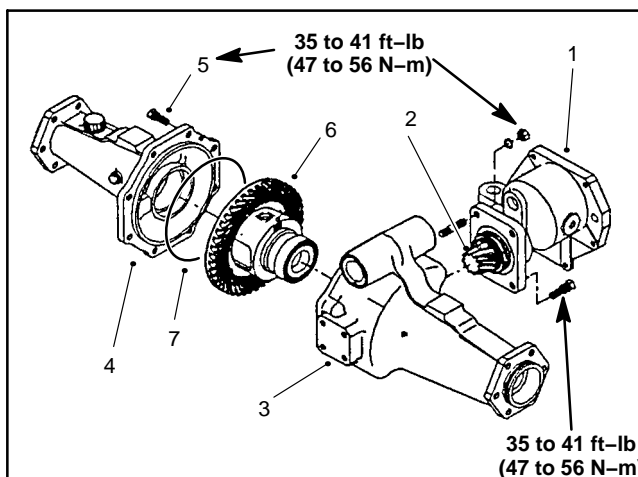

Figure 32
3. Remove input shaft/pinion gear assembly, shims, and O-ring from the axle support (Fig. 32).